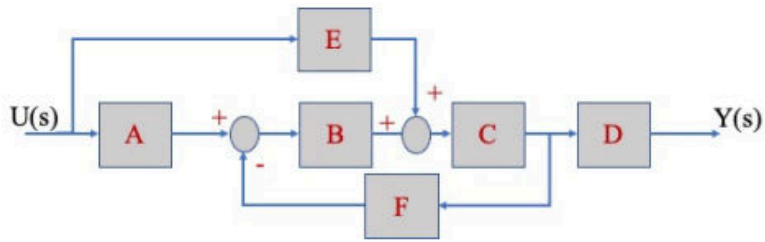

Figure 1: Block Diagram
1. Q1. What is the transfer function of this linear system in Fig.1?